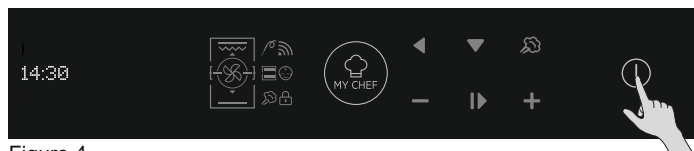

Figure 4
- At first launch you need to follow an installation process to be able to use the oven. Press ON/OFF to go ahead. (Figure 4)